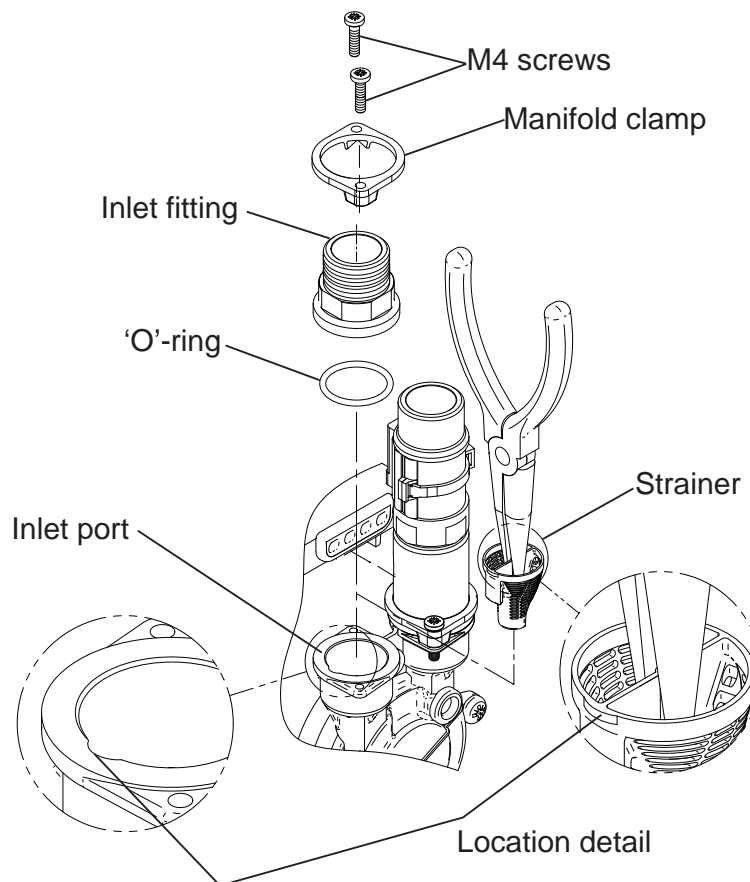

Fig. 15
- 6.12 **Inlet strainer:** The inlet strainers may require periodical cleaning. The frequency of this operation is dependent upon installation conditions. The strainer is located in the inlet assembly of the pump casing (Fig. 15) and is removed as follows:-
- Remove M4 screws (2 off) from inlet assembly, lift brass inlet fitting (with 'O'-ring) and clamp away from pump casing (Fig. 15).
- Remove strainer with long nose pliers noting location lug position upon removal (Fig. 15) and clean thoroughly.
- Refit strainer taking care to position lug in body inlet port location slot (Fig. 15) and re-assemble pipework. Tighten M4 clamp screws to 1.5 Nm torque.